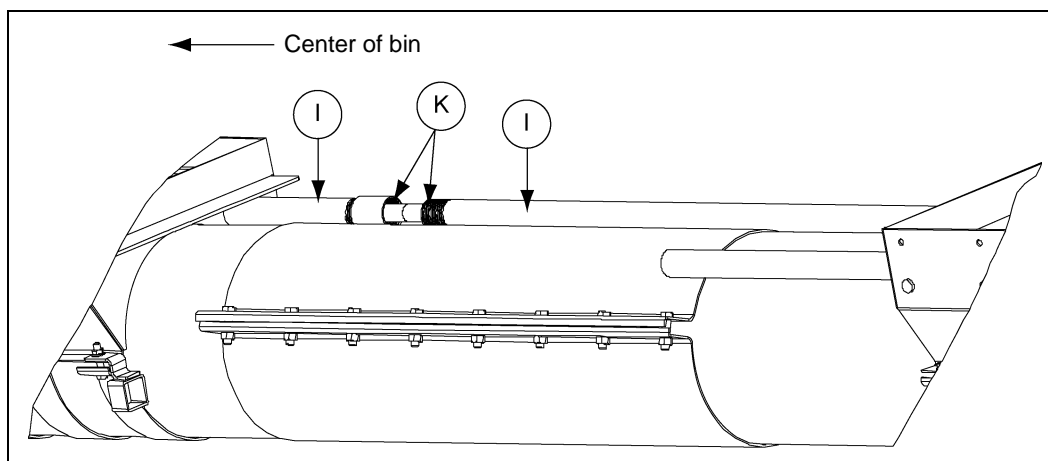

Figure 4M
- Thread the other centerwell rod onto the 1/2" coupler and leave it slightly loose. Also thread the other intermediate rod onto the 1" coupler. (See Figure 4M.)